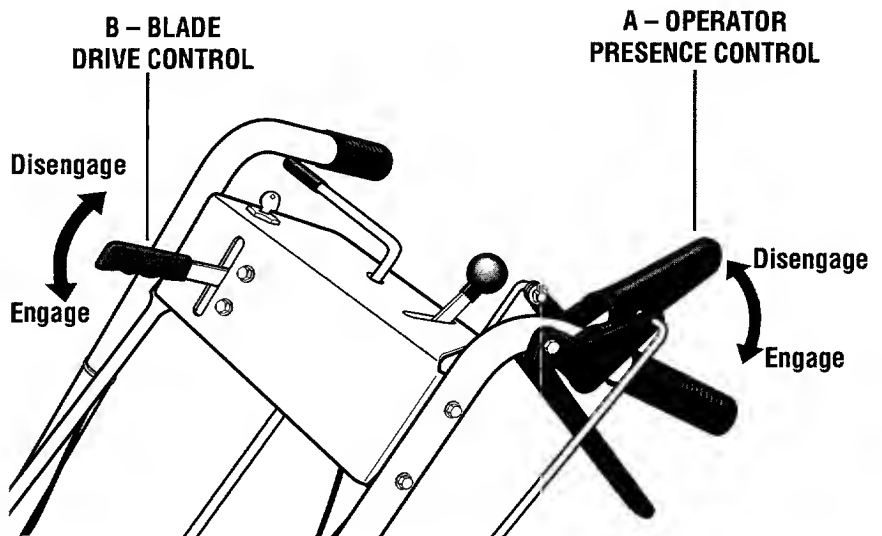

Figure 3-2
Use this lever (B, Figure 3-2) to engage drive to the mower blades.
To engage the blades, first engage the Operator Presence Control (A, Figure 3-2). Then, push the spring-loaded Blade Drive Control lever (B) forward until it stays in the engaged position.